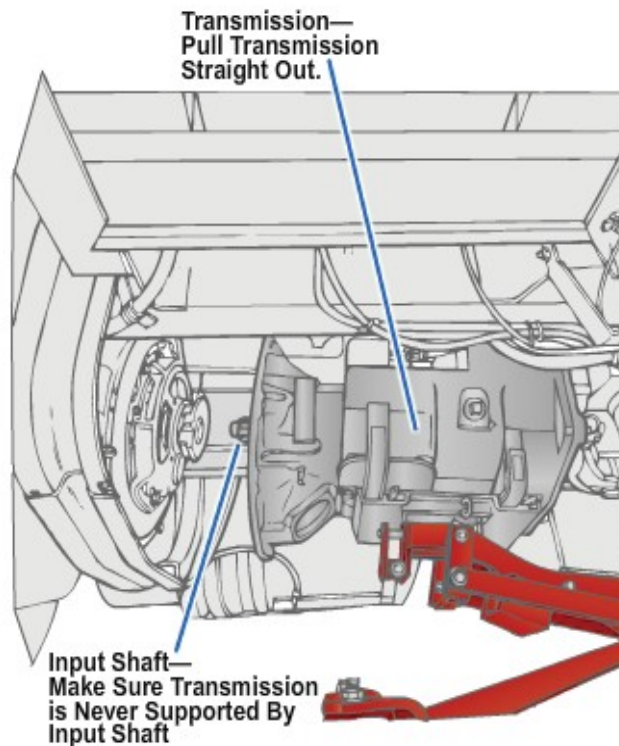

Figure 8-8 - Removing the transmission.
10. Slide the transmission straight back, holding it in alignment with the engine (*Figure 8-8*). You may have to wiggle the transmission slightly to free it from the engine.